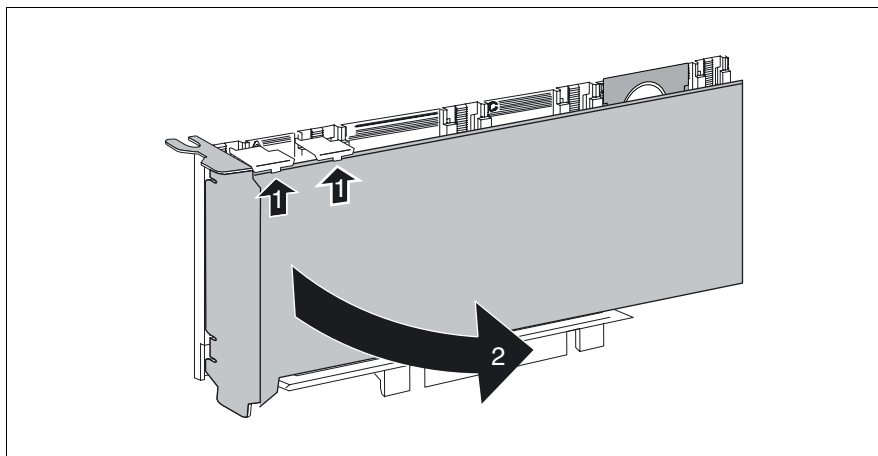

Figure 32: Removing the expansion card from the removal tool
When removing the expansion card from the removal tool, pay particular attention to the engaging hooks that fasten the board to the removal tool (see figure 32 on page 100). Do not lift them by more than approx. 1 mm, in other words only as far until the expansion card is released. Otherwise you could damage the engaging hooks.
- ▶ Remove the dummy module in the same way as a PCI board (see figure 32 on page 100).